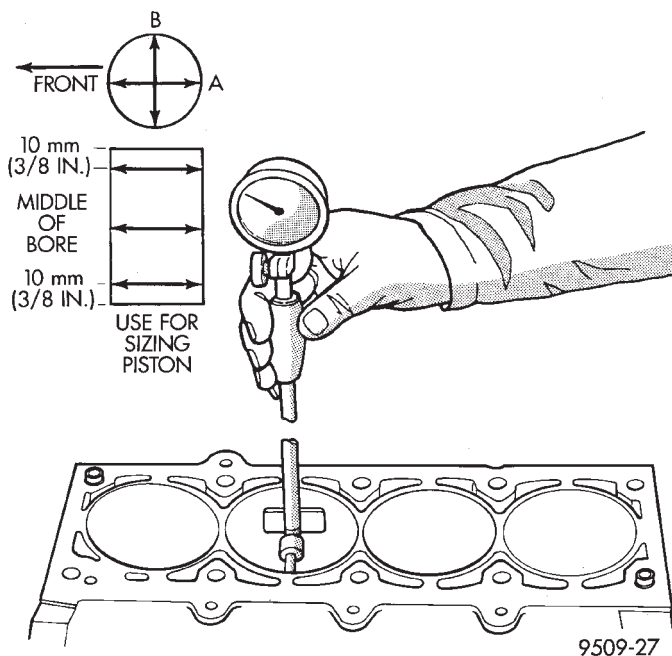

Fig. 75 Cylinder Bore Measurement
(1) It is mandatory to use a dial bore gauge to measure each cylinder bore diameter (Fig. 75). To correctly select the proper size piston, a cylinder bore gauge, capable of reading in 0.003 mm (.0001in.) INCREMENTS is required. If a bore gauge is not available, do not use an inside micrometer.